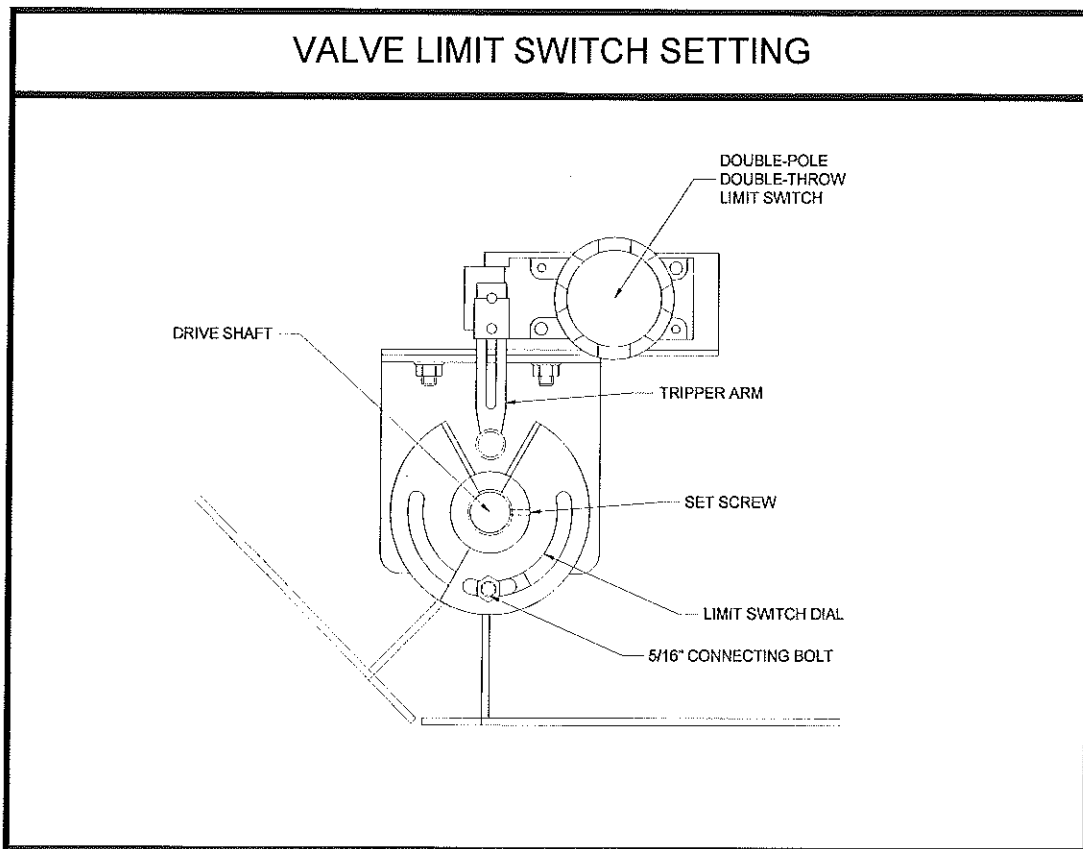

Figure 5
The Double-Pole Double-Throw switch functions for both directions. To set the limit switch start by pointing the arm toward the drive shaft centered between the two halves of the dial. Loosen the (2) set screws that are in the shaft collars of the dial along with the (1) 5/16" locking bolt. Move the door all the way to one side and then rotate the dial toward the tripper arm until the limit switch 'clicks' then tighten up the set collar screw on that half of the dial. Flip the door the opposite way. Turn the second half of the dial toward the tripper arm until the limit switch "clicks" then tighten up the set collar screw on the second half of the dial. Now tighten the 5/16" bolt that connects the two halves together. See Figure 5. Test and make sure that the door operates in both directions stopping before it bottoms out. It is important that it does not bottom out as it will wear the clutch down.
The air cylinder and the solenoid are factory provided and mounted. It will also be plumbed from the solenoid to the cylinder. The solenoid will have to be wired and supplied with compressed air. Decide what position the flopper door needs to be, in the event of a power failure. This can be changed by reversing the solenoid output lines that connect to the cylinder. See Figure 5.